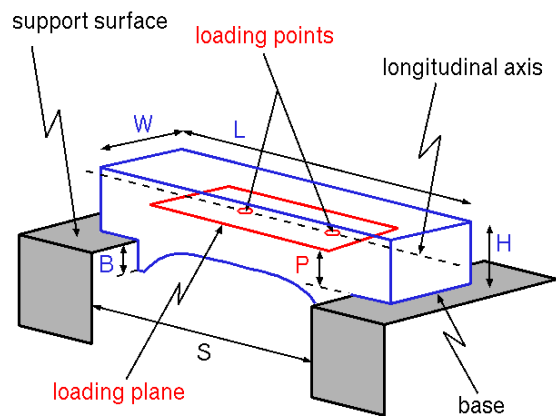

Figure 1: Detail of Bridge Configuration (not to scale).
- b. The bridge (see Figure 1) must span a gap (S) of 300 mm, be no longer (L) than 400 mm, be no taller (H) than 100 mm above the support surface, and no wider (W) than 80 mm. The bridge structure must extend below the support surface by no more (B) than 10 mm.
- c. The bridge shall contain an "arch-type" structure below the main support plane (see Figure 1) that spans between the supports. An arch uses curved members for its main load carrying members. For this contest, the arch shall be composed of either curved members or two or more straight segments arranged to approximate an A-frame or a multi-segmented frame. The arch element must make contact with the vertical faces of both support surfaces.
- d. The bridge must have a horizontal loading plane shall lie a distance (P) between 10 and 100 mm above the support surfaces.
- c. The load will be applied with the center of the plate at one of two possible locations on the longitudinal axis of the bridge: 20 mm and 40 mm on either side of the center of the 300 mm span (Figure 1).